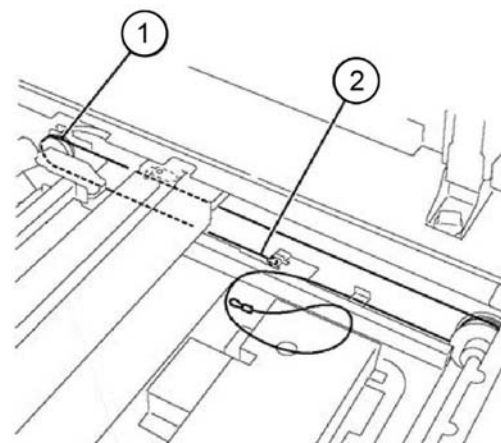

Figure 10 End-ball end installation
5. Install the end-ball end of the carriage cable, **Figure 10**:
- a. Wrap the cable on the pulley at the front of the half rate carriage (1).
- b. Put the end-ball in the notch in the frame (2).